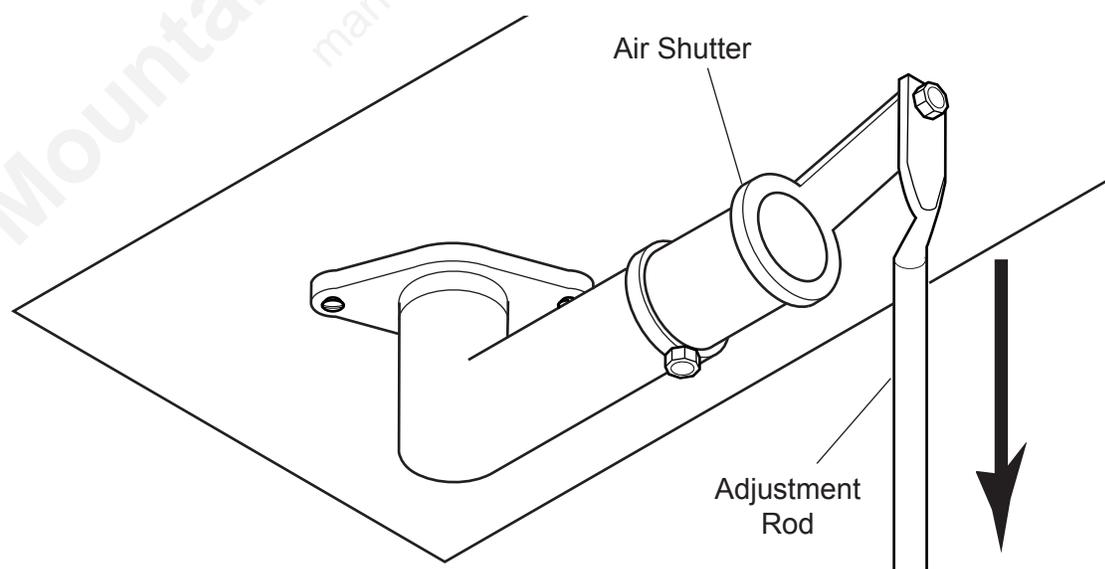

Figure 46 - Pull Adjustment Rod Down to Close Air Shutter
- To decrease air mixture, pull down the adjustment rod located beneath the stove. This closes the shutter. Flames will be more yellow. *See Figure 46.*